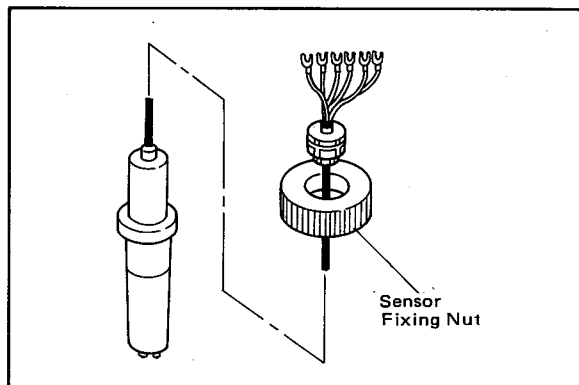

Figure 2-8. Preparation for Sensor Cable Connection.
- (1) Connect the sensor cable to the associated equipment. First, remove the sensor fixing nut and pass the sensor cable through the nut (see Figure 2-8). Correctly connect as per Section 2-3.